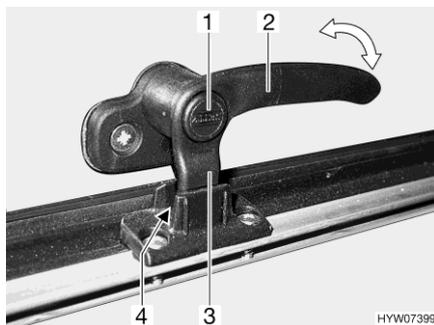

Fig. 37 Catch lever ("continuous ventilation" position)
- "Continuous ventilation" (Fig. 37)
- Press the safety knob (Fig. 37,1) and keep it pressed.
- Turn the catch lever (Fig. 37,3) a quarter turn towards the centre of the window.
- Return the catch lever to its initial position. Move the locking catch (Fig. 37,3) on the catch lever into the recess of the window catch (Fig. 37,4).
- Release the safety knob (Fig. 37,1).